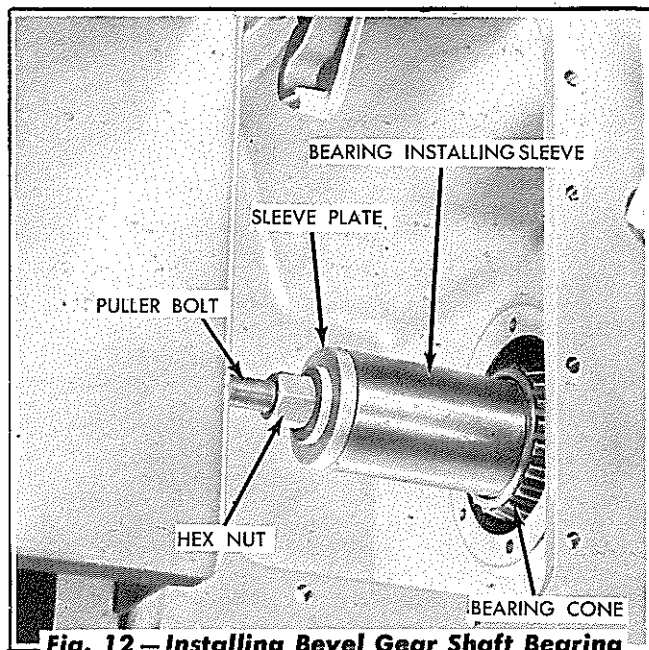

Fig. 12 - Installing Bevel Gear Shaft Bearing
3. Lubricate the other bearing cone and start it on the left hand end of the bevel gear shaft, with the large diameter of the bearing toward the bevel gear. Using a tool similar to that shown in Fig. 12, install the puller screw (used in removal) in the tapped hole in the left hand end of the bevel gear shaft. Place a bearing installing sleeve, (having an O.D. the size of the inner race of the bearing cone) over the puller screw and against the bearing cone race. Install a sleeve plate